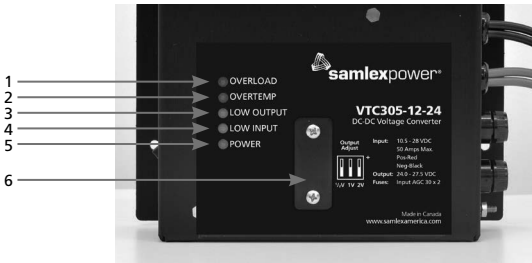
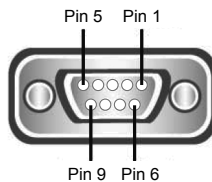

Fig 2.3 Top of Chassis
Fig 3.4 Female DB-9 Connector for Remote Monitoring and On/Off Control
To turn the unit ON, press the ON/OFF Rocker Switch (3, Fig 2.1) to ON position. The alarm buzzer will sound and the Yellow LED "LOW OUTPUT" (3, Fig 2.3), Yellow LED "LOW INPUT" (4, Fig 2.3) and Green LED "POWER" (5, Fig 2.3) will come on together briefly, and then the Green LED "POWER" (5, Fig 2.3) will continue to be ON. The unit will provide the programmed regulated voltage from no load to the maximum load shown in the specifications section. You may check this voltage at the output terminals of the unit with a good digital voltmeter.
When the ON/OFF Rocker Switch (3, Fig 2.1) is switched OFF, the Green LED "POWER" (5, Fig 2.3) will extinguish slowly in around 25 sec under no load condition.
A set of 3 DIP switches has been provided to adjust the output voltage in steps of 0.5V from the default voltage of 24.0V (see Fig 3.1 below). These DIP switches are located in a pocket covered by a removable cover plate (6, Fig 2.3).
To adjust the output voltage, turn off the ON/OFF Rocker Switch (3, Fig 2.1). Remove the plate covering the DIP Switches for output voltage adjustment (6, Fig 2.3). Reach in with a non-conductive device such as a pencil and position the DIP Switches as shown in Fig 3.1 below to select the desired output voltage. Replace the plate. Press the ON/OFF Rocker Switch (3, Fig 2.1) to ON position.
A Single Pole Double Throw (SPDT) Relay "K1" has been provided that will energize when Yellow LED "LOW OUTPUT" (3, Fig 2.3) and Buzzer alarms are switched ON due the output voltage dropping below 90% of the programmed value [Refer to Table 5.1-LED and Buzzer Alerts for Monitoring and Troubleshooting]. The contacts of the Relay are connected to Pins 1 and 6 of the Female DB-9 Connector (Fig 3.4).
- **Normally Open (NO) Condition [Fig 3.3(b)]:** The Shorting Link is placed between the lower 2 pins of J11. This is the default condition. The 2 output contacts 1 and 6 of the DB-9 Connector (Fig 3.4) will be open when the relay is de-energized and close when the relay is energized
- **Normally Closed (NC) Condition [Fig 3.3(a)]:** The Shorting Link is placed between the upper 2 pins of J11. In this condition, the 2 output contacts 1 and 6 of the DB-9 Connector (Fig 3.4) will be closed when the relay is de-energized and open when the relay is energized.
7. Turn the Power ON/Off Switch (3, Fig 2.1) to ON position and confirm that contacts 1 and 6 of DB-9 Connector (Fig 3.4) are open
A Female DB-9, 9-Pin Connector (Fig 3.4) has been provided for remote monitoring and ON/OFF control. This is located on the left side of the unit (2, Fig 2.1). Pinout (Function of each pin) is shown in Fig 3.5.
An optional Remote Control Panel Model RCP1-VTL (Fig 3.6) may be connected to the voltage converter using the 9-pin, Female DB9 Connector (Fig 3.4) located on the left side of the voltage converter (2, Fig 2.1). The remote control panel allows the unit to be operated remotely as well as duplicating all the diagnostic indicators and audible alarm.